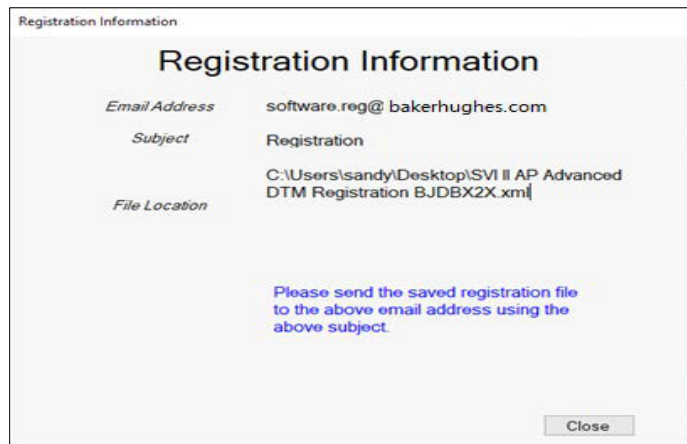

Figure 10 - Registration File and Information
1. Browse to the desired folder (or make a folder), click **OK** and Figure 10 appears.